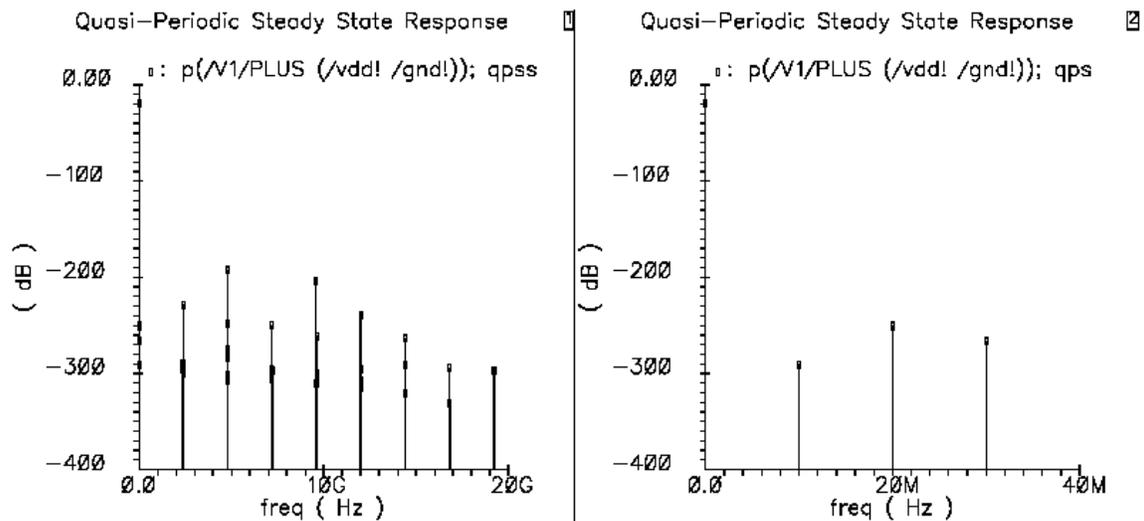

Fig 7: Large Signal Voltage Conversion Gain
- *You will see the plot as shown in Fig7*